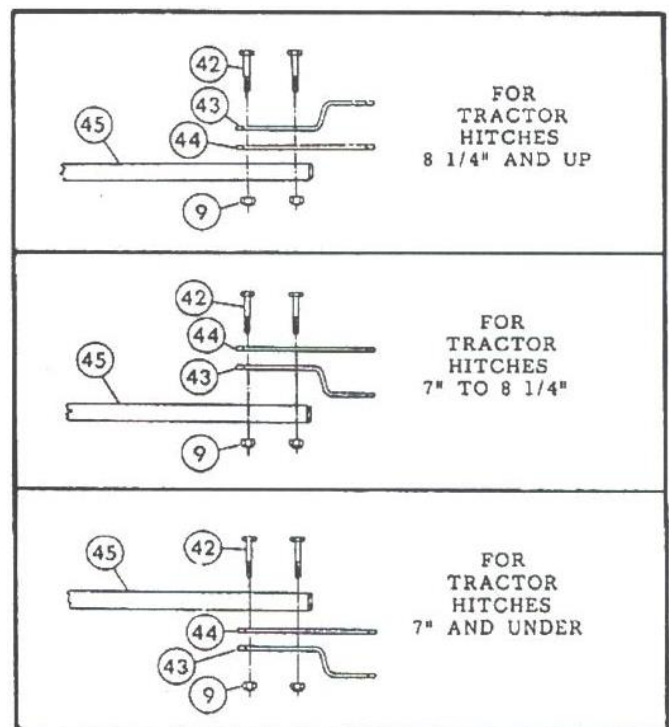

Figure 3
Attach Hitch Brackets to Lawn sweeper Tongue as follows and as shown in Figure 3.
- A) Due to the wide range of Tractor sizes and drawbar heights, mounting of the Hitch Brackets may vary, depending on your particular Tractor. Top of Lawn Sweeper Tongue (45) should be level or approximately 8" off the ground with the Lawn Sweeper in the lowest setting.
- B) See Figure 3 and select the recommended mounting to suit your particular Tractor hitch height. Then attach Hitch Brackets (43 and 44) with two Bolts (42) and secure with two Lock Nuts (9).